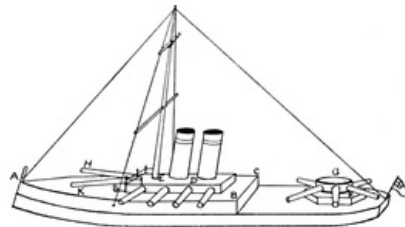

FIG. 283
**A Dreadnought.** The bottom of the boat is made from a piece of wood  $9\frac{3}{4}$  inches by  $2\frac{1}{2}$  inches. Shape the bow as in Fig. 283. To this glue another piece of wood, A B C, shaped to fit over the first, and about 6 inches in length. The two pieces can also be nailed together.